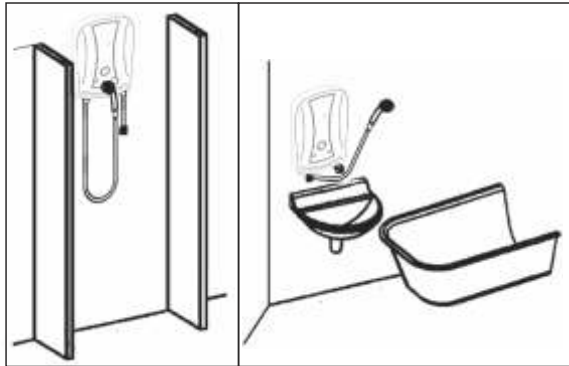

Fig. 2
5. Possible installation options of the water heater are given in Fig.2.